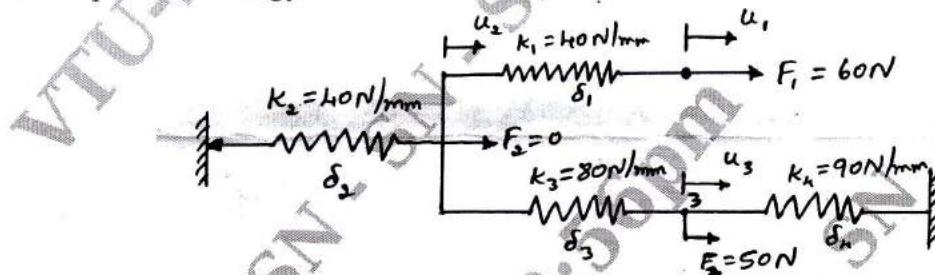

Fig Q2(b)
b. For the spring shown in Fig Q2(b), determine the nodal displacement using principle of minimum potential energy.